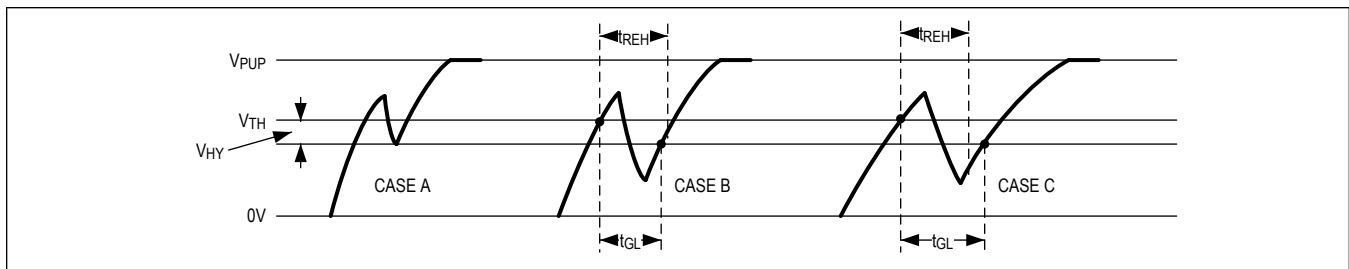

Figure 7. Noise Suppression Scheme
- There is a hysteresis at the low-to-high switching threshold  $V_{TH}$ . If a negative glitch crosses  $V_{TH}$ , but does not go below  $V_{TH} - V_{HY}$ , it is not recognized (Figure 7, Case A). The hysteresis is effective at any 1-Wire speed.
- There is a time window specified by the rising edge hold-off time  $t_{REH}$  during which glitches are ignored, even if they extend below the  $V_{TH} - V_{HY}$  threshold (Figure 7, Case B,  $t_{GL} < t_{REH}$ ). Deep voltage drops or glitches that appear late after crossing the  $V_{TH}$  threshold and extend beyond the  $t_{REH}$  window cannot be filtered out and are taken as the beginning of a new time slot (Figure 7, Case C,  $t_{GL} \geq t_{REH}$ ).